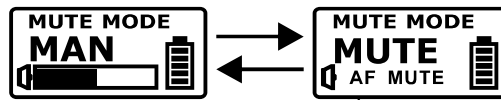

Fig. 20
- (2) MAN: the mute function is controlled by MUTE button. Fig. 20